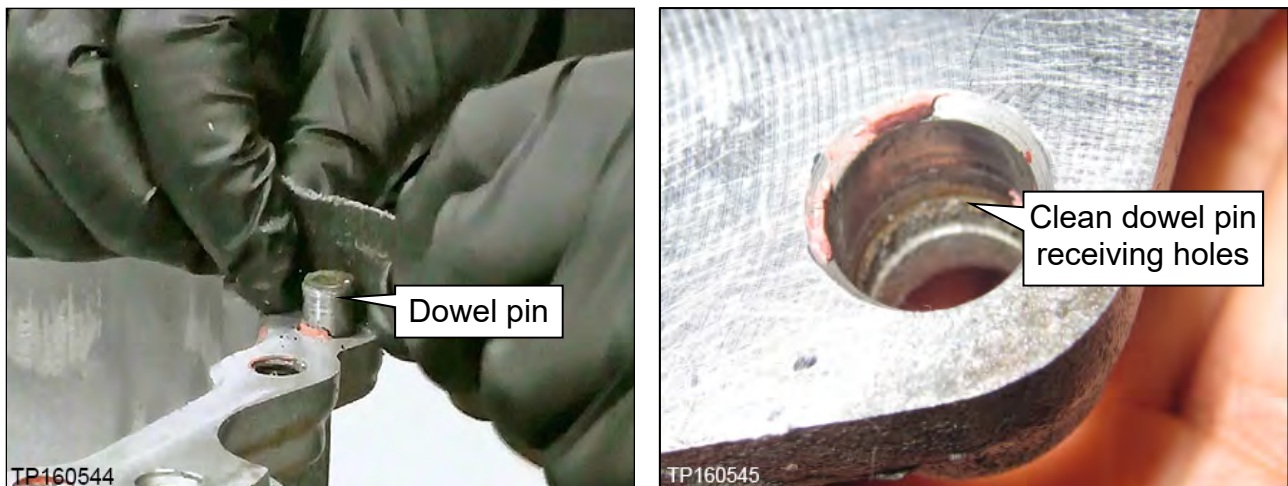

Figure 55
- Make sure rust and debris have been cleaned off of dowel pins and receiving holes (Figure 55).
35. Clean the dowel pins and dowel pin receiving holes of any rust or debris (Figure 55).